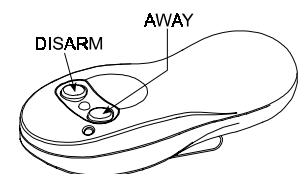

Figure 24. MCT-132 / 102
D. MCT-132 / 102* (Fig. 24): 2-button units. MCT-132 (CodeSecure) Can perform functions as shown. MCT-102 (PowerCode) can perform emergency and non-alarm tasks. Both units look alike.